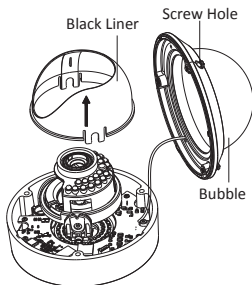

Figure 2-1 Remove the Bubble and Black Liner
2. Open the bubble and remove the inner black liner as shown in Figure 2-1.